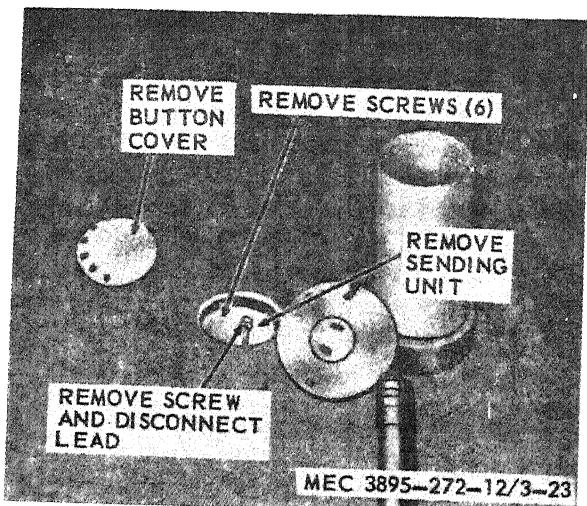

Figure 3-23. Fuel level sending unit, removal and installation.
a. *Removal.* Remove the fuel level sending unit as instructed on figure 3-23.
- (1) Clean the sending unit with an approved cleaning solvent.
- (2) Inspect the float for evidence of fuel soaking.
- (3) Inspect for poor electrical connections, damaged wiring, and such. Replace a defective sending unit.
c. *Installation.* Install the fuel level sending unit in reverse of the instructions on figure 3-23.